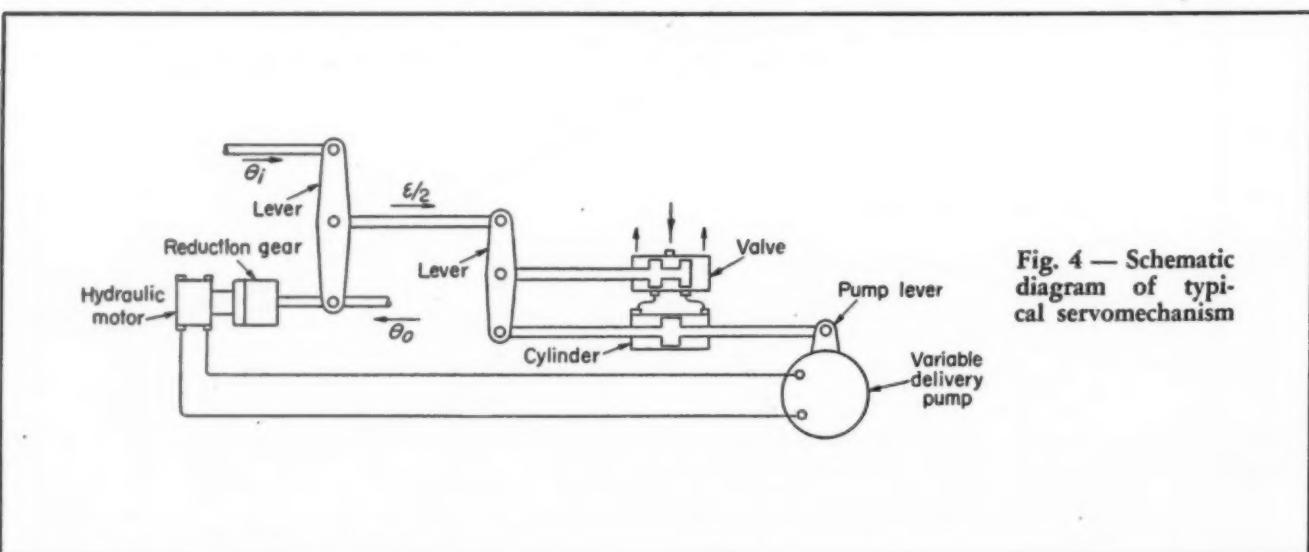

Fig. 4 — Schematic diagram of typical servomechanism
**EXAMPLE:** Fig. 4 shows a frequently used type of hydraulic servo. The input  $\theta_i$  is applied to the lever, which also receives the output  $\theta_o$  from a hydraulic motor and reduction gear. The error is applied to a second lever, which also receives the output of a small cylinder, the difference being applied to a valve which actuates a cylinder. Movement of the cylinder is applied to the pump lever which controls the output of a variable delivery pump which supplies a motor.